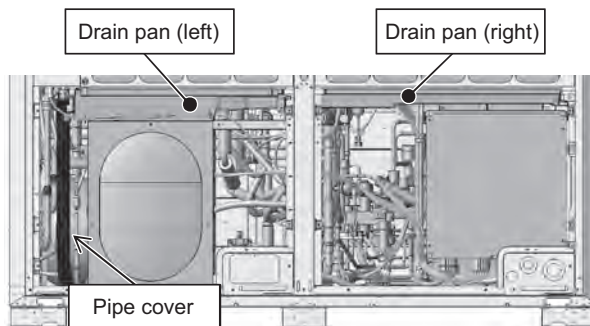

Figure 2
- (3) Remove the cable straps holding the weak and strong electrical wirings. (See Figure 2.)
- (5) Remove the drain pan cover by unscrewing the screw and cutting the cable tie. (See Figures 2 and 3.)
- (6) Remove the drain pan by unscrewing the two screws. (See Figure 2.)
Be sure to remove the two rod holders holding the check joints to the drain pan. (Figures 2 and 3 show the cable ties to be cut.)